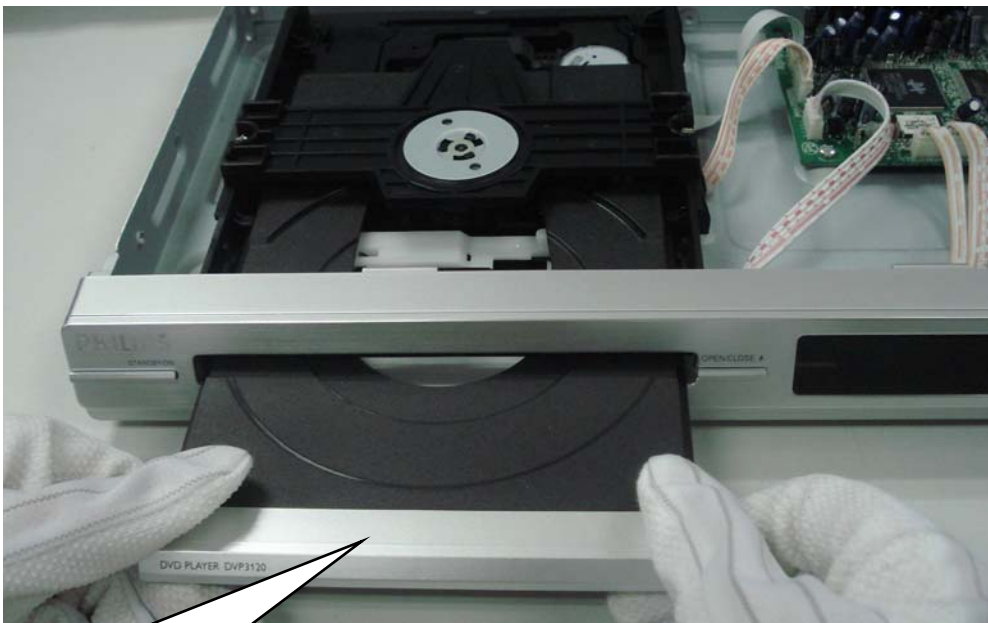

Figure 2
Step2: If it is necessary to dismantle Loader or Front Panel, It should remove the Front door assembly first. (Figure 2)